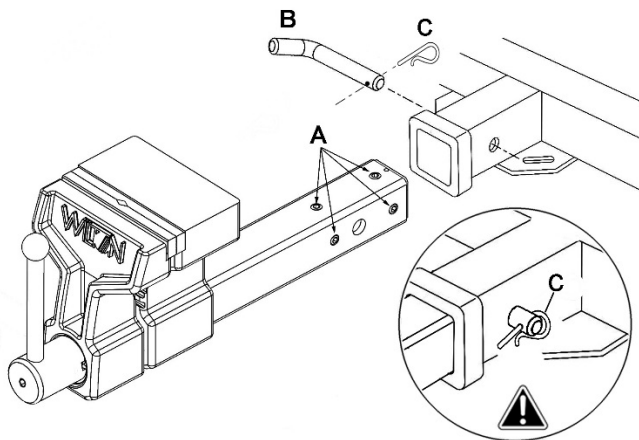

Figure 2
Refer to Figure 2.
4. Slide vise tube into bench receiver. If there is too much "play" within the receiver, rotate any of the four adjustment screws on the tube (A, Figure 2).